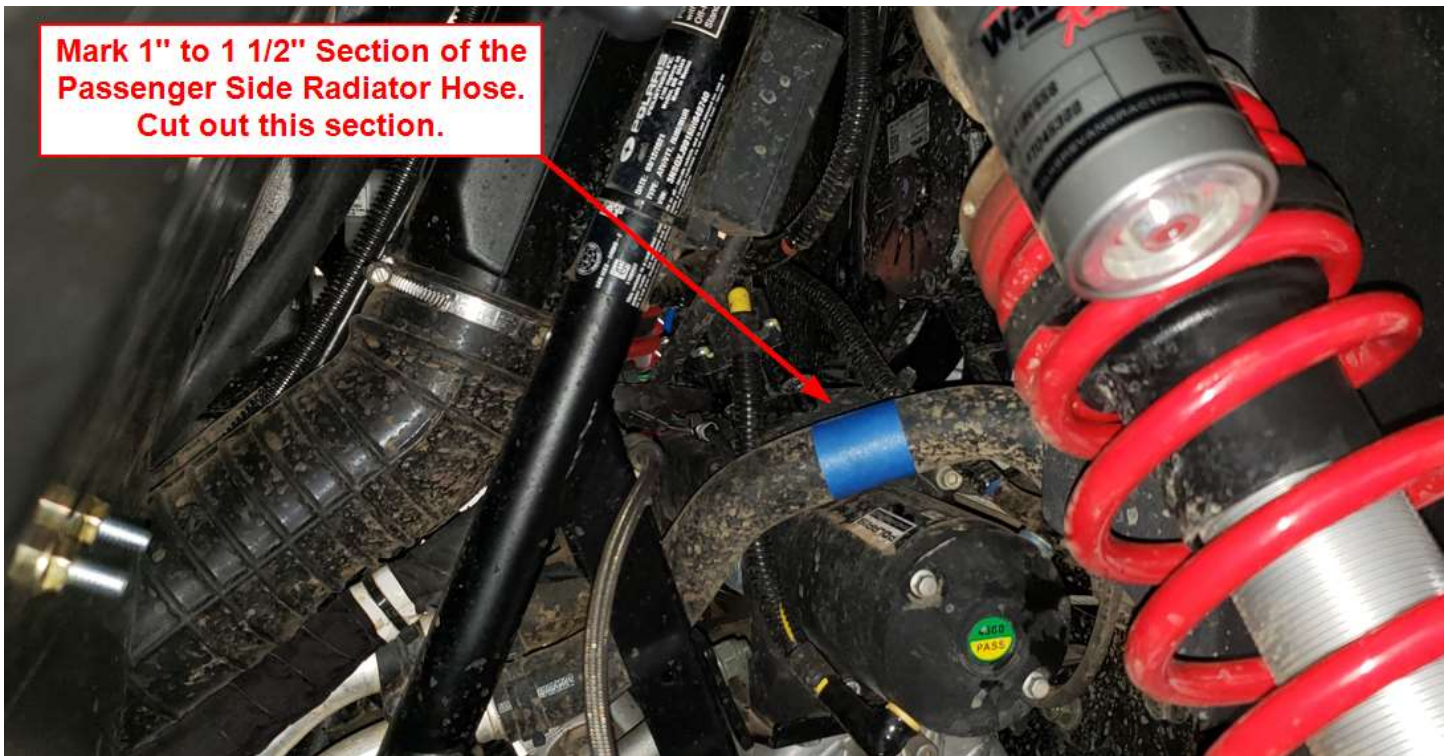

Figure 24
- f. Assemble the 1" Aluminum Y's using (3) wraps of Teflon Tape on the Brass 5/8" Barbs. Tighten it snug into the Y's as shown in Figure 24